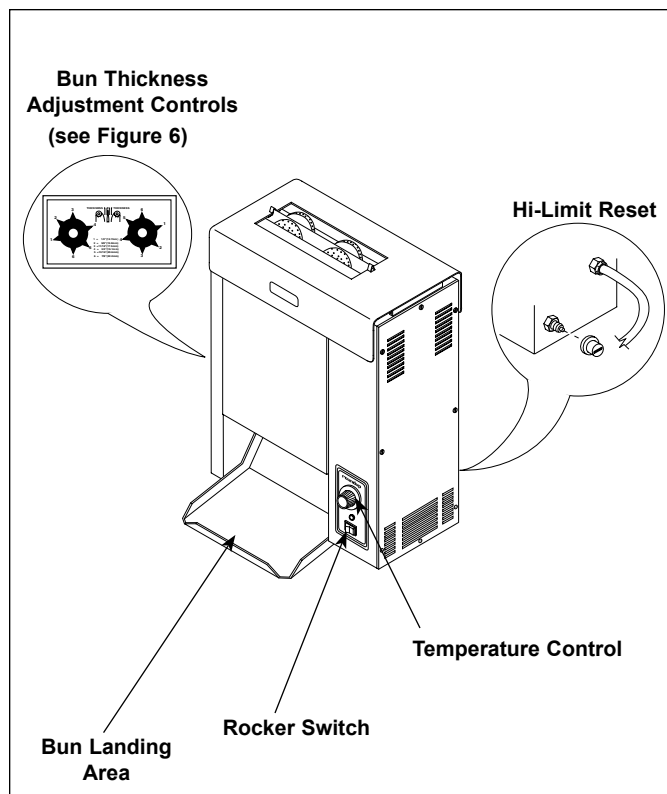

Figure 5. Toaster Controls
2. Turn the Rocker Switch (power On/Off) to ON (Figure 5).
4. Drop buns into toaster with the cut sides of heel and crown facing each other (Figure 5).
5. Toasted product will drop into the Bun Landing Area (Figure 5).
A hi-limit thermostat will turn off electrical power to the heater and control circuits if the unit overheats. To reset this thermostat, allow sufficient time (10-15 minutes) for the unit to cool down, then press and release reset button located at the rear of the unit (Figure 5).
|   | Hi-limit switch tripped open.                                      | Reset hi-limit switch (Fig. 5, page 9).   |